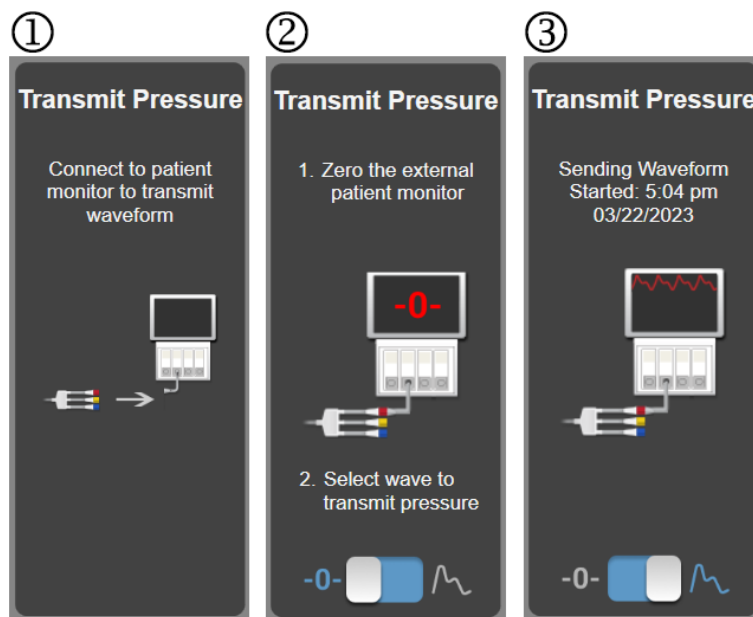

Figure 11-10: Transmit arterial pressure waveform to patient monitor
4. Zero patient monitor and confirm 0 mmHg is displayed. See (2) in Figure 11-10 on page 219. Refer to the patient monitor instructions for use.
5. Toggle to the **Transmit Waveform** icon  to begin pressure signal output to the patient monitor. See (3) in Figure 11-10 on page 219.
6. A **"Sending Waveform Started:"** message with the timestamp is displayed when the live waveform is being transmitted to the connected patient monitor. See (3) in Figure 11-10 on page 219.